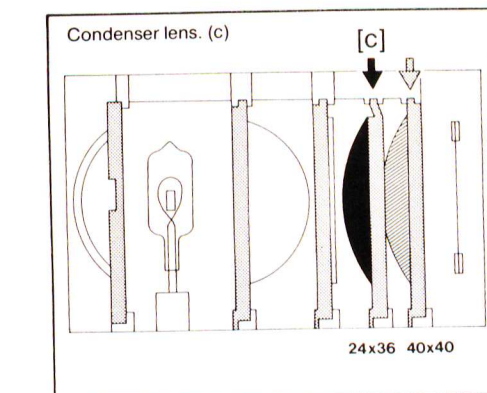

Fig. 6.
When projecting slides measuring 24 x 36mm, 28 x 28mm, 24 x 24mm and 18 x 24mm, the condenser lens (c) must be in the left-hand slot (see Fig. 6). When 40 x 40mm (super-slide) slides are being shown it must be moved to the right-hand slot, so that the larger slide area is correctly illuminated.
The 250mm lens is supplied together with a condenser lens which must be fitted in place of the standard condenser nearest to the slide gate (C) for Models SAV 2000, 2020 and 2030 (Fig. 6). This special condenser (Cat. No. 7006109) can also be used with the 150 and 180mm lenses.